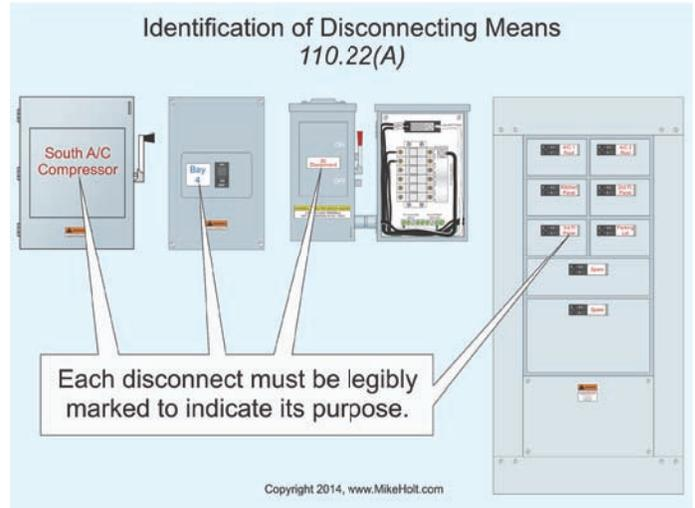

Figure 110–7
**(A) General.** Each disconnecting means must be legibly marked to indicate its purpose unless located and arranged so the purpose is evident. The marking must be of sufficient durability to withstand the environment involved. **Figure 110–7**
**(C) Tested Series Combination Systems.** Tested series-rated installations must be legibly field-marked in accordance with 240.86(B) and 110.21(B) to indicate the equipment has been applied with a series combination rating.